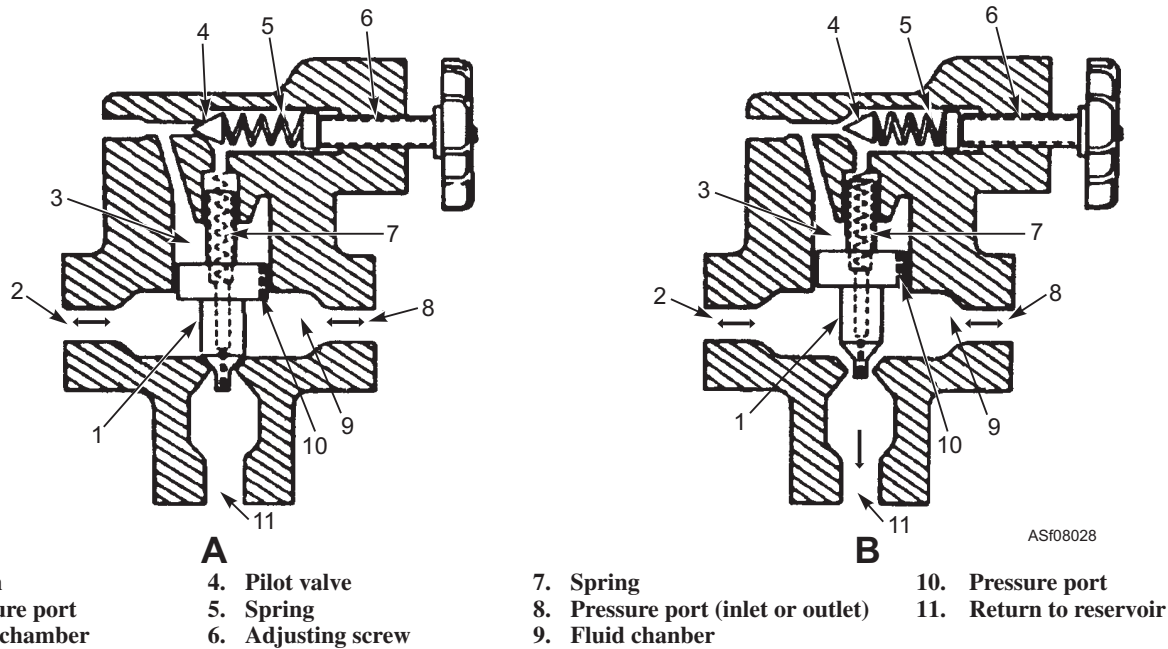

Figure 8-28.—Pilot-operated relief valve.
PILOT-OPERATED RELIEF VALVES.—A more complex relief valve is the pilot-operated relief valve, shown in figure 8-28. View A shows the relief valve in the closed position. View B shows the valve in the open position. In the closed position, fluid at system pressure flows through the inlet port (2 or 8), around the piston (1), and out the outlet port (2 or 8). (Inlet and outlet ports may be used interchangeably when the valve is mounted in the pressure line, or one port may be plugged when the valve is connected with a “tee” fitting off the pressure line.)